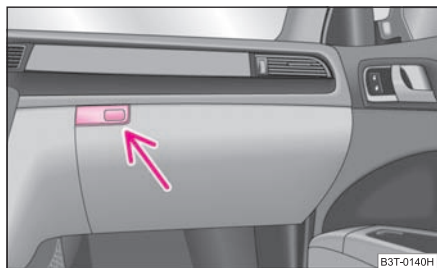

Fig. 91 Dash panel: Storage compartment on the front passenger side
- Press the button ⇒ fig. 91, the lid folds down.